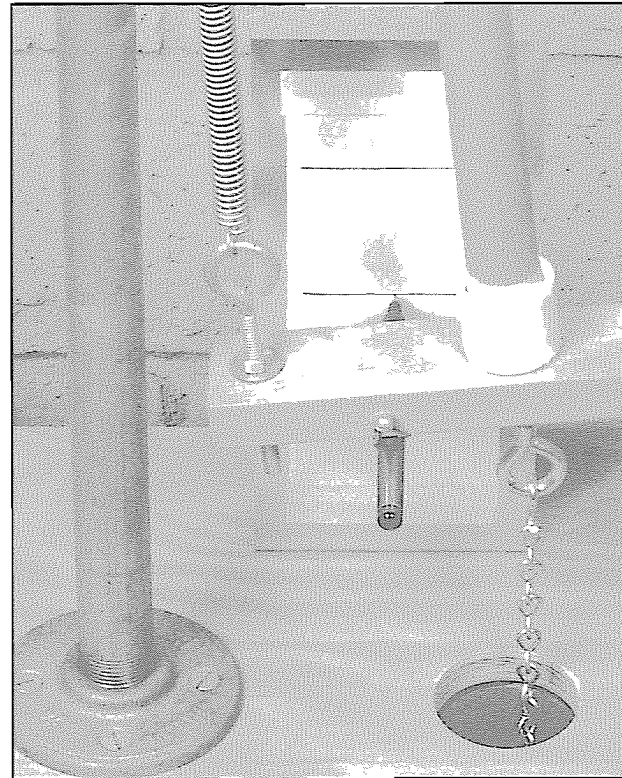

Figure 18-14. The sand-filled bucket hangs (through the hole) from the eyebolt under the motor holder, and the "calibration line" is scribed on the paper.
5. With the hooks and the chain, hang the sand-filled bucket from the eyebolt directly under the motor holder, so that the chain passes through the hole in the test stand's base. Once again, slide the paper up against the point of the pen, and draw a second line where it touches the paper (Figure 18-14). I call this line the **calibration line**, and for this test, it represents a thrust of 10.0 lbs.